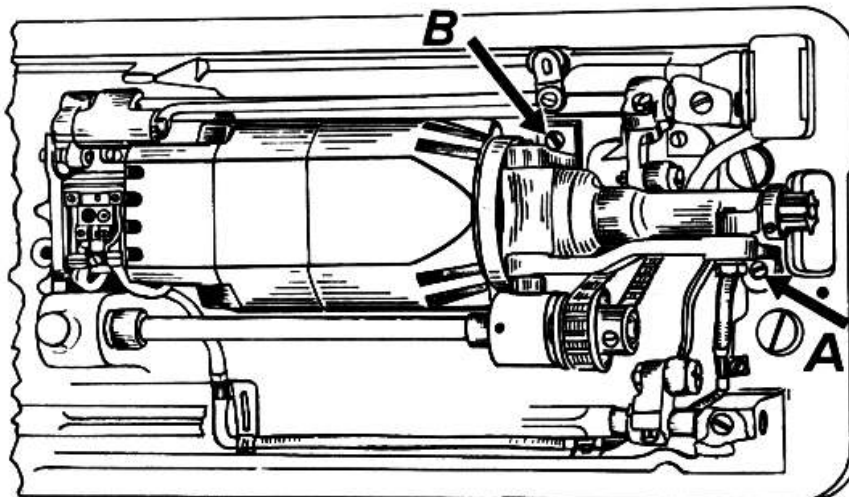

Fig. 115 Installing and adjusting the Pfaff PE 260 (261) motor
2. Turn the motor so that its driving belt sprocket is at the balance-wheel-end of the machine, and place it on the bottom of the bedplate so that both screwholes in the motor bracket line up with the corresponding holes in the bedplate (see arrows in Fig. 115).
3. Turn screw A partway in, insert and tighten screw B, then tighten screw A for good (Fig. 115).